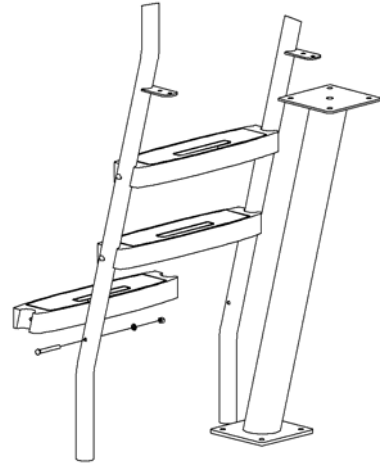

FIGURE 2
2. **Slide round escutcheons over ends of left and right side rails before putting them in the wedge anchors.** Insert the left and right side rails into the previously installed rear wedge anchors. Attach the three 15° white steps using the supplied pre-packaged hardware. Each step is fastened using a (2ea) 3/8" gusset head bolt, 3/8" flat washer, and 3/8" hex nut. See **FIGURE 2**